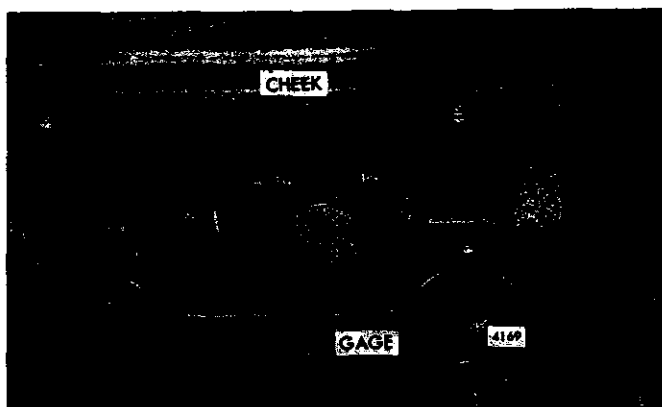

Fig. 12 - Crankshaft Distortion Measuring Gage Mounted on Crankshaft
- c. Install a gage (Starrett Co. No. 696 dial gage, or equivalent) in the center punch holes in the cheek of each counterweight (Fig. 12).